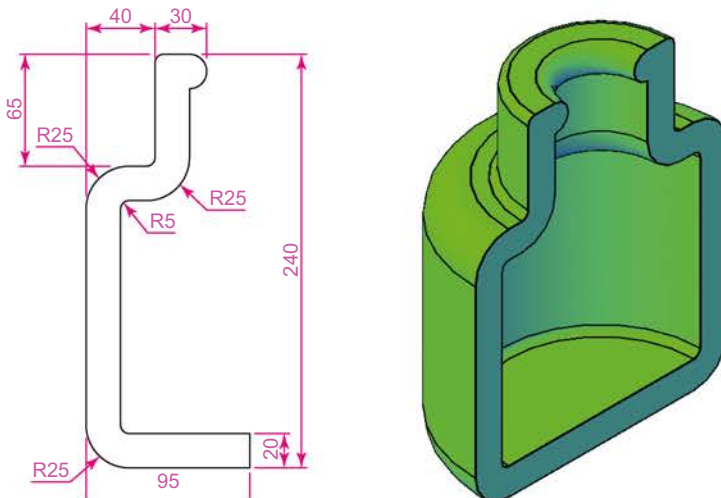

Fig. 9.22 Third example – Revolve – the outline to be revolved and the solid of revolution
THIRD EXAMPLE – REVOLVE (FIG. 9.22)
3. Construct the pline (left-hand drawing of Fig. 9.22). The drawing must be either a closed pline or a region.
The result is shown in Fig. 9.22 (right-hand illustration).